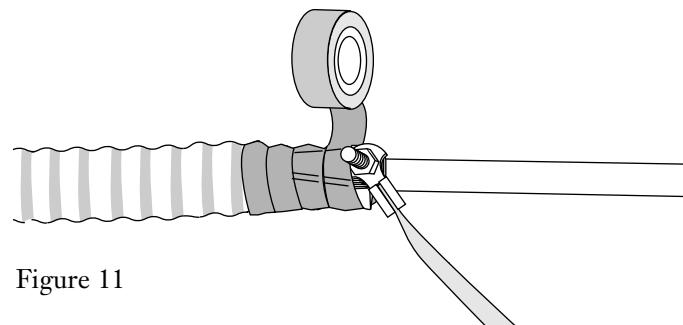

Figure 11
- Cover the grounding clamp and split portion of the sheath with vinyl tape (Figure 11).